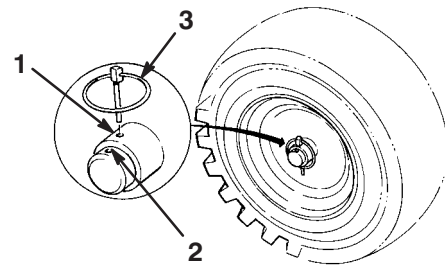

Figure 5
7. Slide the wheels inward and insert each axle pin through the hole in each wheel hub and through the *inner* hole of the axle (Fig. 5).